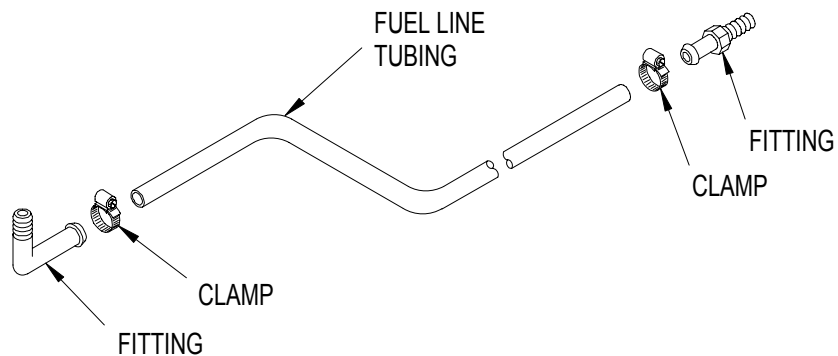

Figure 4-12. Fuel Lines, Clamps, Fittings (Typical)
- (3) Loosen hose clamps (Figure 4-12) and remove fuel line tubing.
- (4) Remove fittings as necessary.
- (1) Install fittings (Figure 4-12) as necessary.
- (2) Install fuel line tubing and tighten clamps.
- (3) If drained, fill fuel tank with diesel fuel (DL-1, DL-2, or JP-8).
- (4) Prime and bleed the fuel system. Refer to paragraph 2.7.c.